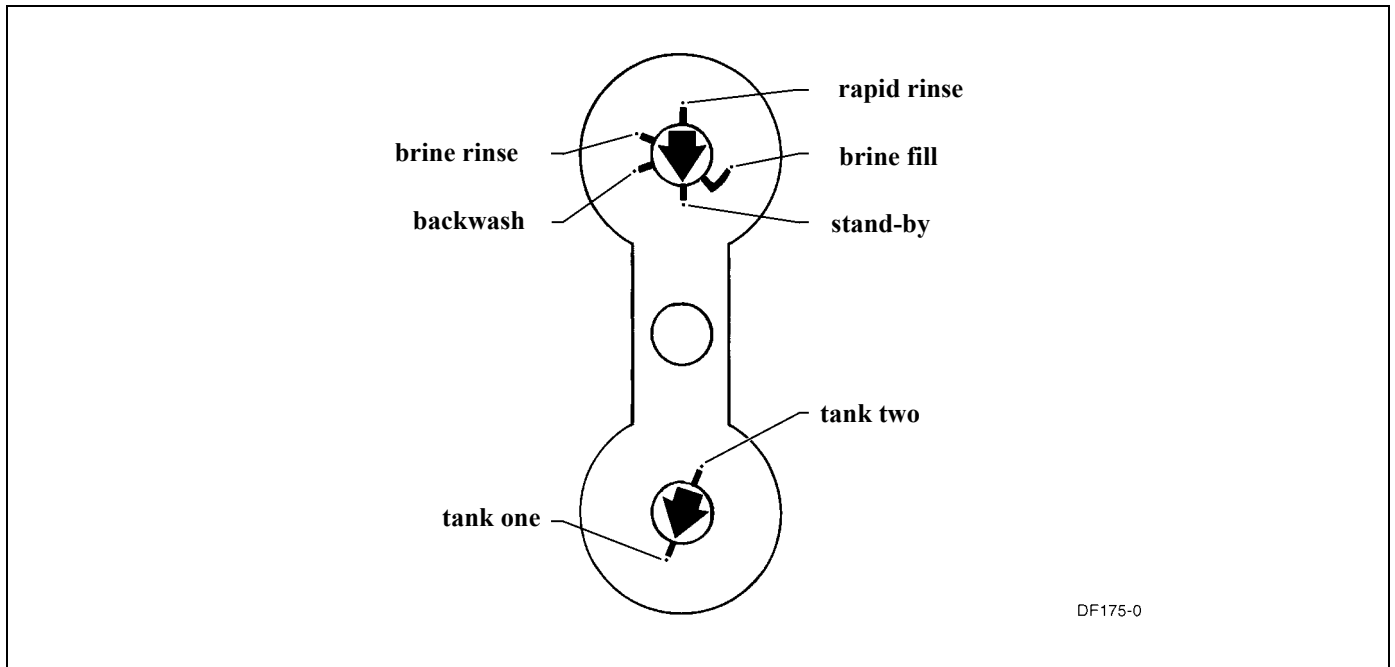
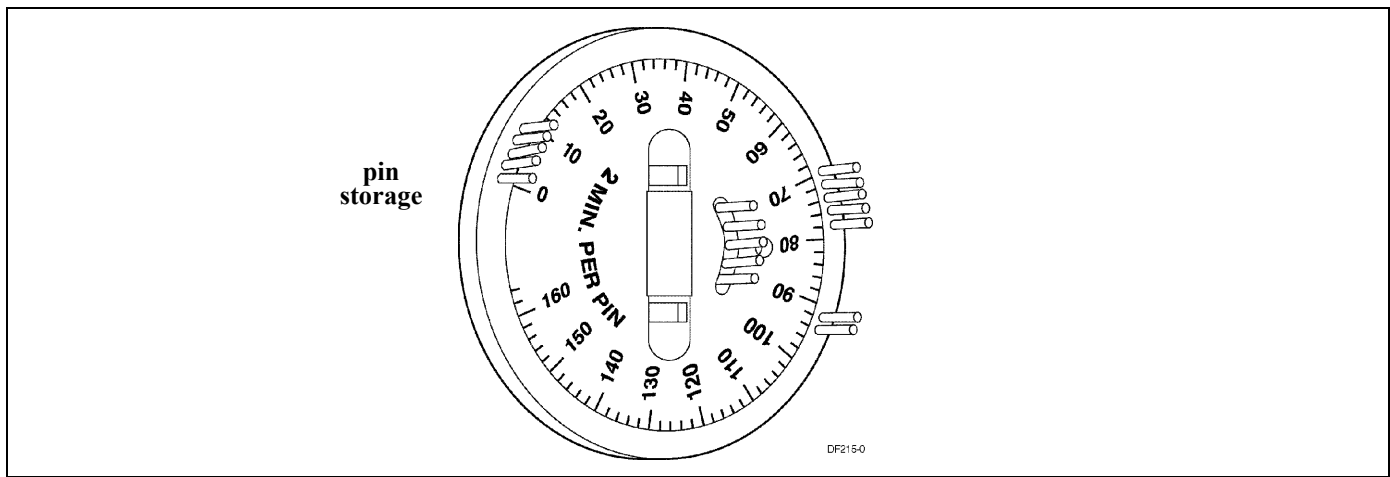

Figure 3: Control Valve Position Indicators
Figure 5: Program Wheel
- Figure 3, page 7 shows the valve **In Service** position with tank one supplying conditioned water and tank two on standby.**NOTE:** Make sure the meter cable is not inserted in the meter dome. Swing the timer out to expose the program wheel (to swing timer out) grab onto the lower right corner of timer face and pull outward. See Figure 5, page 8.
1/30 RPM has 164 minute **Regeneration Time**. See Figure 5.
The program wheel in *Figure 5* is **In Service** position. Looking at the numbered side of the program wheel, the group of pins starting at zero determines the length of time the unit backwashes.